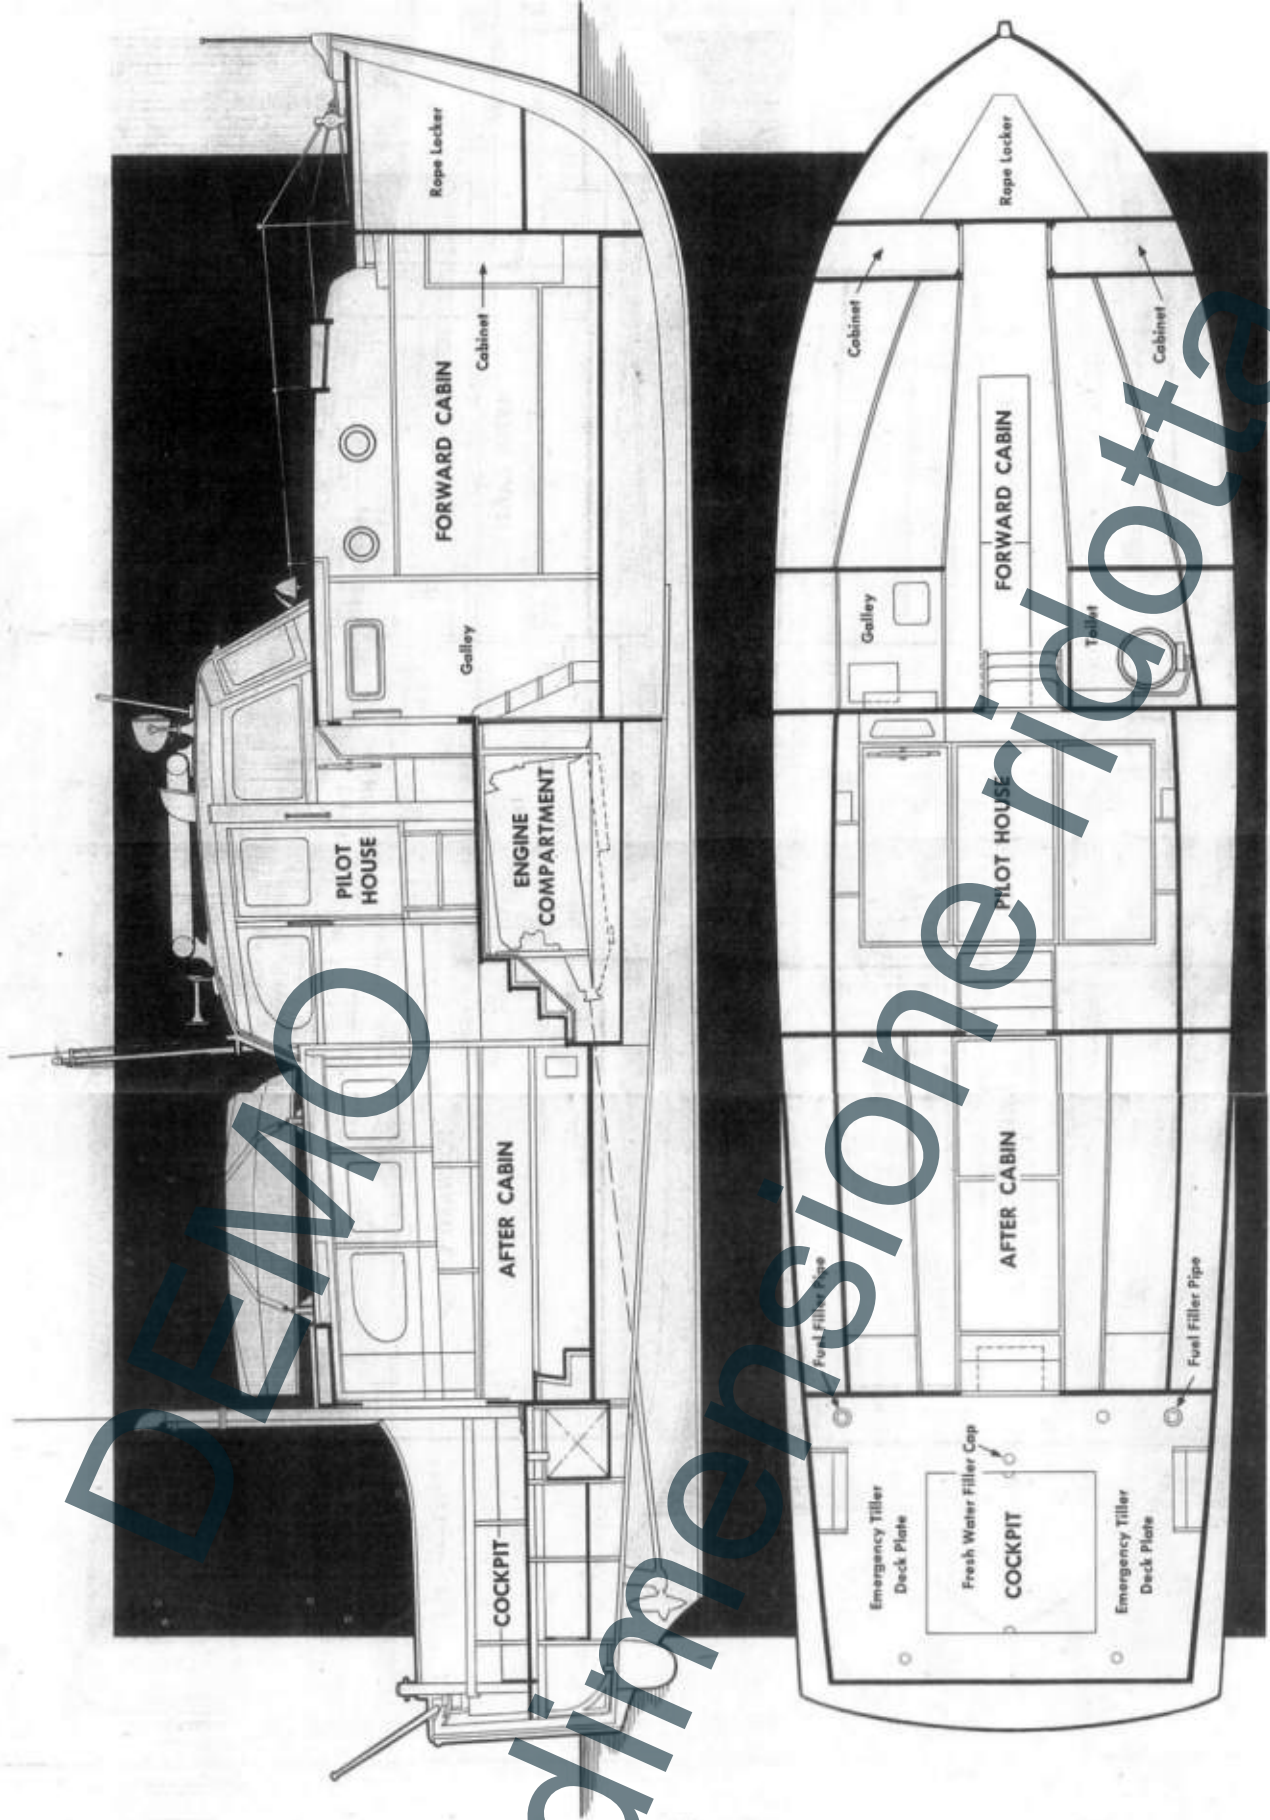

Figure 1—Outboard Profile and Plan
a. TYPE.—The 42-foot AAF Rescue Boat (*figures 1 and 2*), Design 221-D, is a twin-screw self-propelled gasoline motor boat of vee bottom construction. It is intended to serve as a harbor patrol boat. The forward cabin is fitted with four portlights and two watertight windows, two bunks with removable cushions and stowage space below, two lockers against the forward bulkhead, an enclosed toilet space against the after bulkhead containing a water closet and medicine cabinet, and the galley space containing a one-burner alcohol pressure stove, sink, and stowage shelves. The pilothouse aft of the forward cabin is equipped with the steering gear, engine controls, compass, folding seats, and one cabinet for the ship's log. Two skylights are in the pilothouse top. In the pilothouse floor are removable hatches for access to the engine compartment below. The after cabin or dispensary is fitted with two bunks with removable cushions, stowage space below the bunks for litters, stowage space for life preservers between the bunks and the hull, and two cabinets against the after bulkhead for the radio equipment. The cockpit is of the self-bailing type with a hatch leading to the space below, which contains the fuel and water tanks. The cockpit is fitted with a hinged seat at the stern.